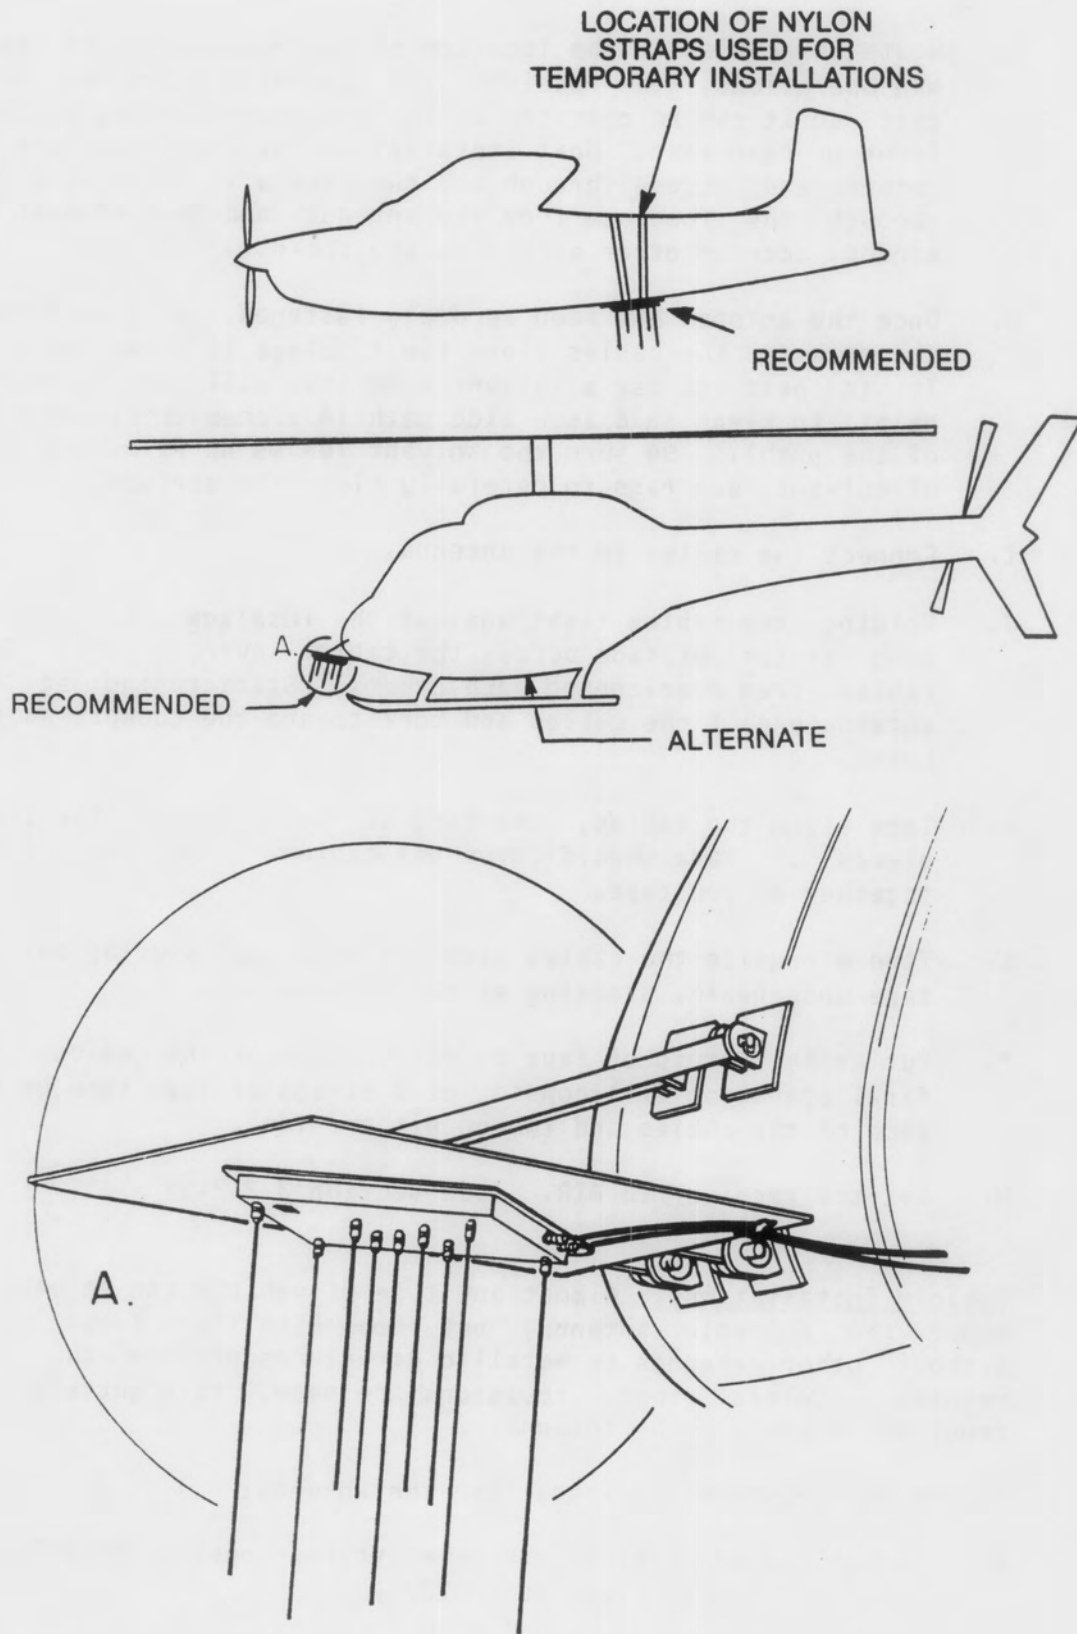

Figure 2-3. Recommended MA396E Antenna Locations On Aircraft.
- A. Note the forward part of the antenna that is marked with the red tape arrow. Position the antenna on the underside of the fuselage (figure 2-3) so the forward part points toward the desired reference point, usually the front of the craft.